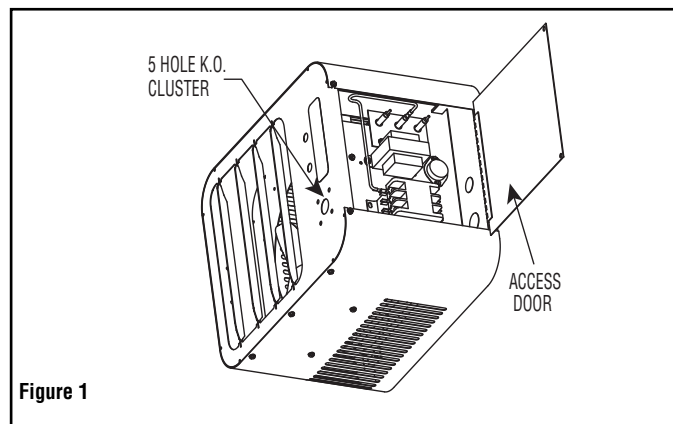

Figure 1
1. The amperage rating of the disconnect must be equal to or greater than the amperage rating on Table A and as marked on the nameplate located on the bottom access door (Figure 1).
- B. The power disconnect switch kit is to be installed in the five (5) hole K.O. cluster located in the bottom left front corner of the heater. The K.O.'s can be removed using a chisel or similar tool, if the 7/32 Ø K.O.'s are stubborn, it may be necessary to drill out using a 7/32 drill bit (See Figure 1).